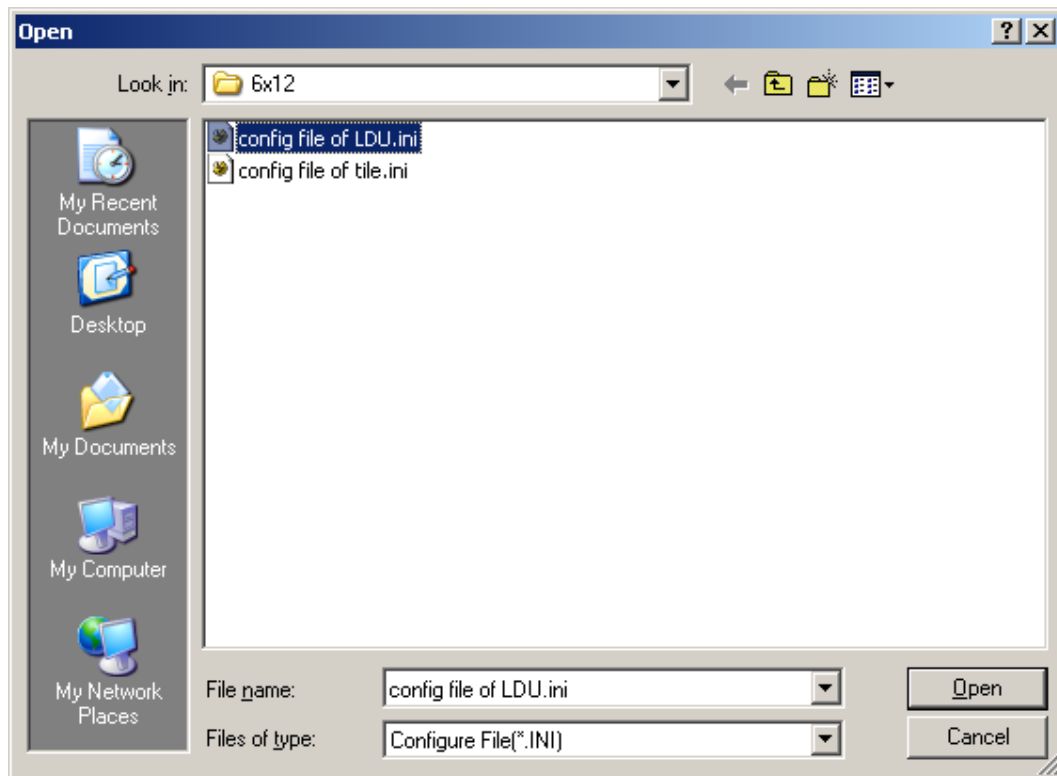

Fig. 7.26 Selecting a desired file
Step 2: Select a file. Click the button **...** after Configure of LDU. Select the desired file in a window as shown in Fig.7.26, say Config file of LDU.ini, and then click Open.